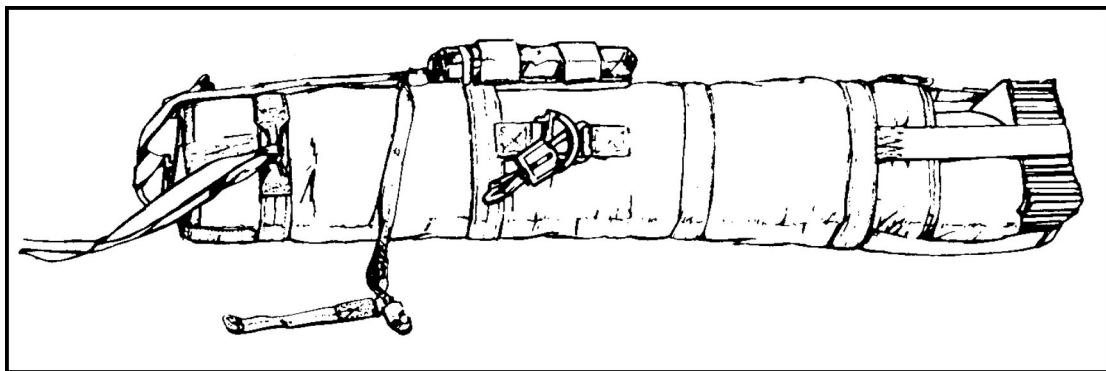

Figure 12-55. Standard lowering line stowed.
- (1) Insert the lowering line assembly in the lowering line stow pocket with the attaching strap positioned against the pack body and ejector snap away from the jump pack.
- (2) Fasten the hook-pile tabs firmly together around the lowering line stow pocket (Figure 12-55). The AT4JP is now ready for attachment to the parachutist.